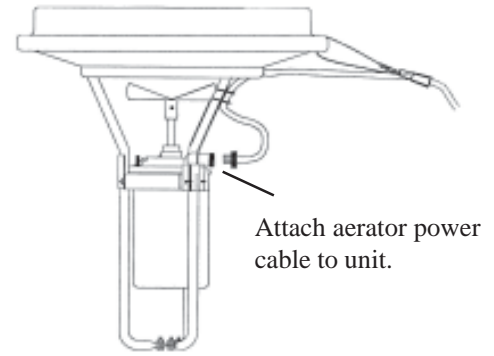

Figure 1
B. Attach your Otterbine power cable to the aerator. Using a screwdriver, remove clamp from connector nut. Align the pigtail connector on the cable up to the pin configuration on the bulkhead on the aerator. **HAND TIGHTEN** the coupling nut onto the bulkhead connector. **DO NOT OVER TIGHTEN -- OVER TIGHTENING WILL CAUSE A FRACTURE IN THE CONNECTOR AND COULD LEAD TO A SHORT CIRCUIT--**see Figure 1. Using a screwdriver, refasten clamp around connector nut.